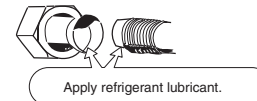

Fig. 7-4
- (1) Apply a sealing cap or water-proof tape to prevent dust or water from entering the tubes before they are used.
- (2) Be sure to apply refrigerant lubricant (ether oil) to the inside of the flare nut before making piping connections. This is effective for reducing gas leaks. (Fig. 7-4)